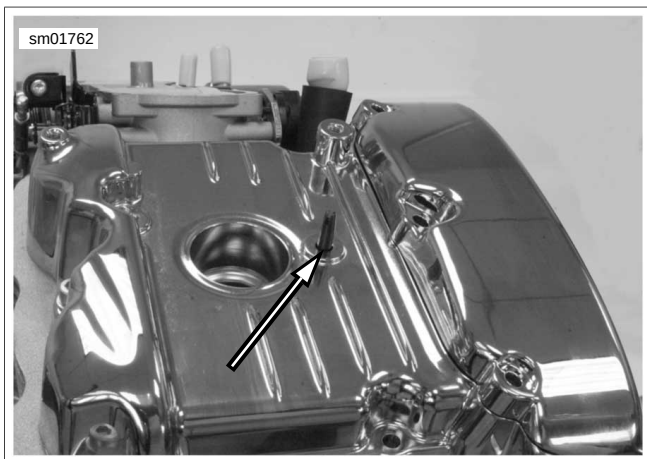

Figure 1-71. Gasket Alignment Tool (H-D-45340)
27. See Figure 1-71. Insert GASKET ALIGNMENT DOWELS (Part No. HD-45340) into small hole in cylinder head next to spark plug hole.